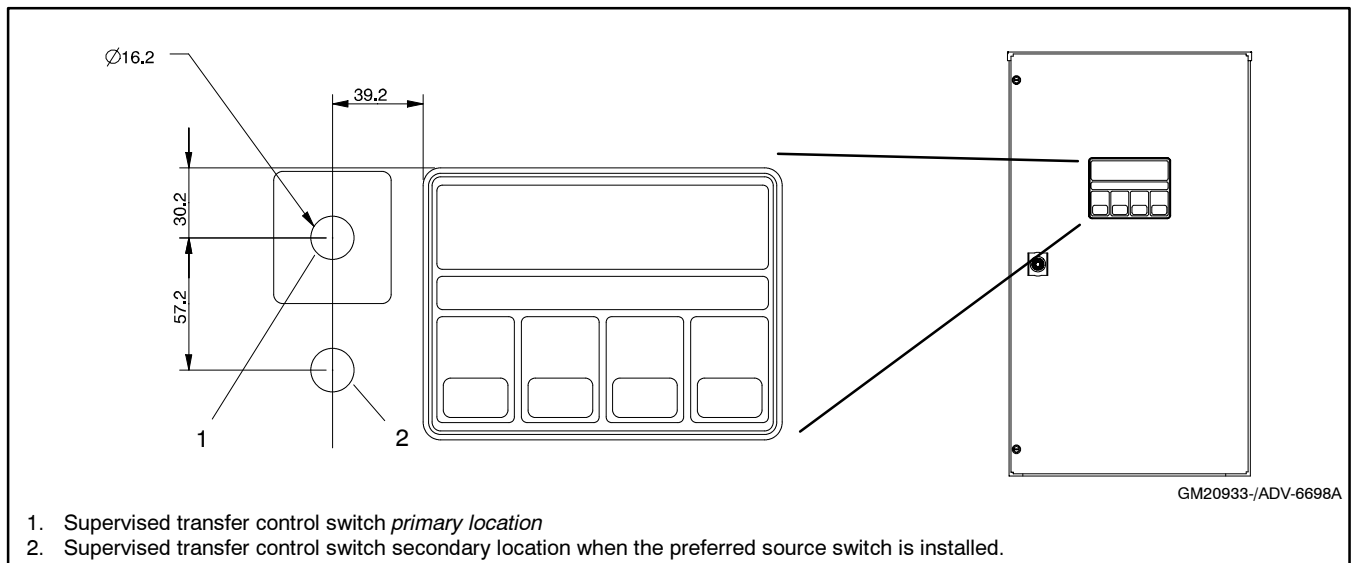

Figure 5 Drill or Punch Hole in Transfer Switch Door
- 2.1 Drill or hole punch a 16.2 mm (0.64 in.) diameter hole in the transfer switch door as shown in Figure 5. Dimensions shown are mm. Use a hole saw or hole punch/die and follow the manufacturer's instructions. Remove burrs and metal chips.